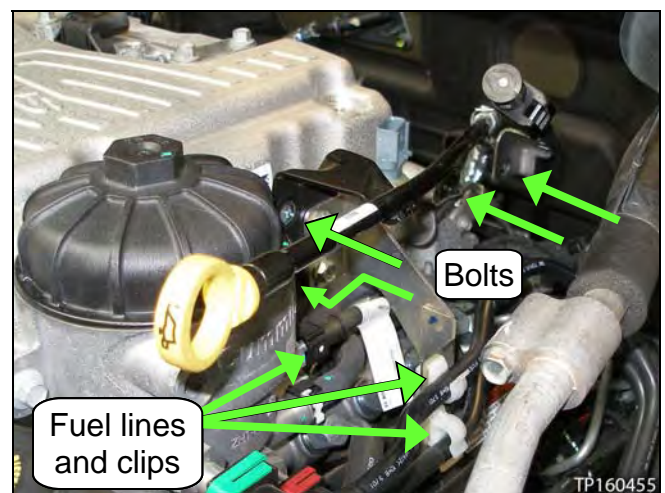

Figure 101
41. Install the four (4) bolts. See Figure 101.
42. Snap the two fuel lines in their clips (see Figure 101).